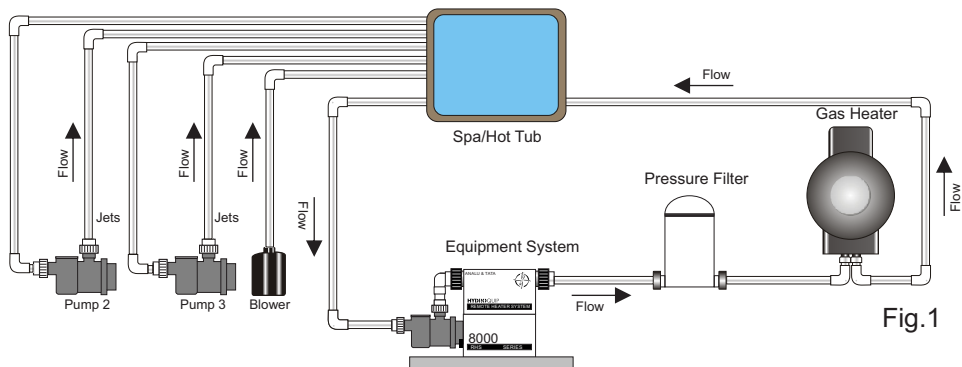

Fig.1
**Warning:** Gas heaters **MUST** be installed in the plumbing **AFTER** the control system as shown below. Fig.1